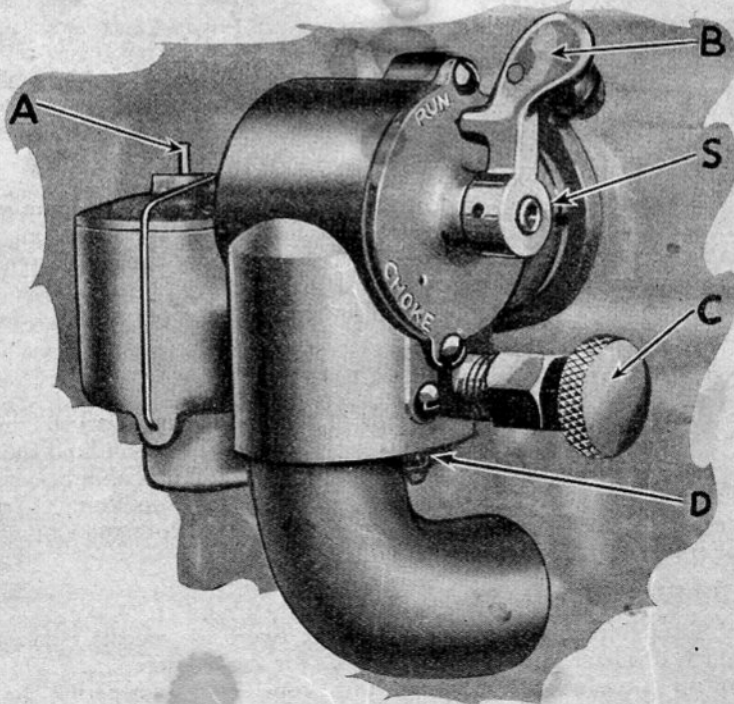

Figure 3
3. See that float valve (small pin on top of carburetor bowl) rises, indicating gasoline in the bowl. ("A" in Figure 3.)
4. Close the Needle Valve ("C" in Figure 3) on the Carburetor and then OPEN it one and a half turns. After motor is running and warm, slowly close this until motor runs best and most steadily. It is unnecessary to change this once it is properly set, altho in some cases opening it a quarter turn will facilitate starting.
5. Turn the Choke-and-Throttle Lever ("B" in Figure 3) forward and down to position marked "Choke"—no farther.
10. Slowly move the Choke-and-Throttle Lever upward as the motor warms up, until it is straight up in the position marked "Run". (See Figure 3.)
Note—If you put the Choke-and-Throttle Lever as far back as it will go, to position marked "S" in Figure 3, the motor will stop.
The carburetor on the Lockwood Twin is our own design and manufacture, simple and efficient, developed in field service. (See Figure 3.)
If the Float Valve (the pin on top of the carburetor bowl—"A", Figure 3) does not rise when the gasoline is turned on, it indicates no fuel in the tank or a stoppage due to dirt somewhere in the gasoline line, or that screw vent has not been opened.
The screw ("D" Figure 3) may be removed and a very fine wire used to clean the nozzle in the carburetor should this become clogged with dirt.